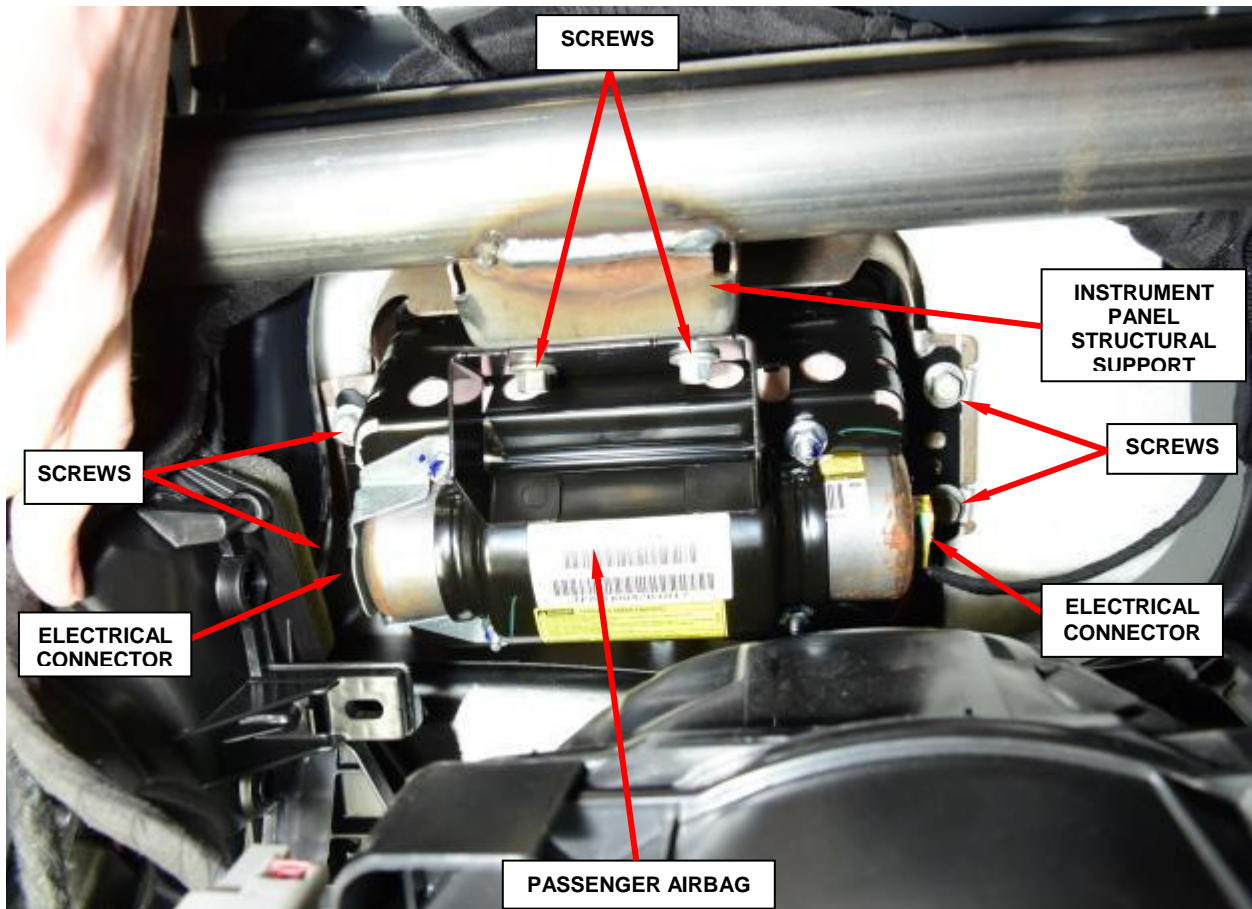

Figure 34 – Passenger Airbag
12. Reach through the instrument panel glove box opening to access and disconnect the two instrument panel electrical connectors from the two Passenger Airbag (PAB) initiators, one at each side of the PAB inflator canister (Figure 34).
13. Reach through the instrument panel glove box opening to access and remove and save the two screws that secure the PAB lower bracket to the instrument panel structural support (Figure 34).
14. Remove and save the four screws that secure the two upper PAB mounting brackets to the U-nuts on each side of the PAB retainer or chute on the underside of the instrument panel cover (Figure 34).